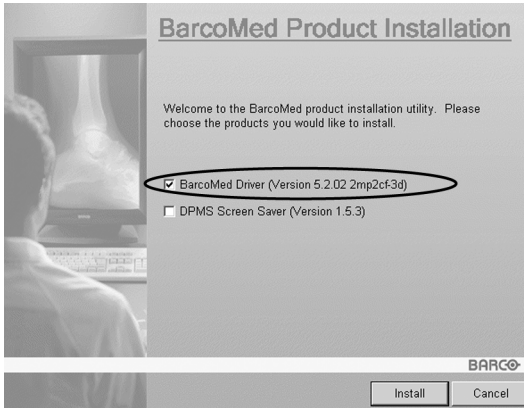

Figure 45
3. To update the driver, clear the checkbox next to (see figure 45 below) and click **“Install”**.